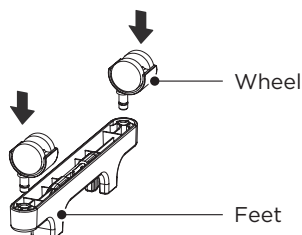

Figure 1
- 1 Remove the feet from intermediate heat sink and remove the wheels from the foam. As shown in Figure 1, the wheels are pressed into the holes of feet.